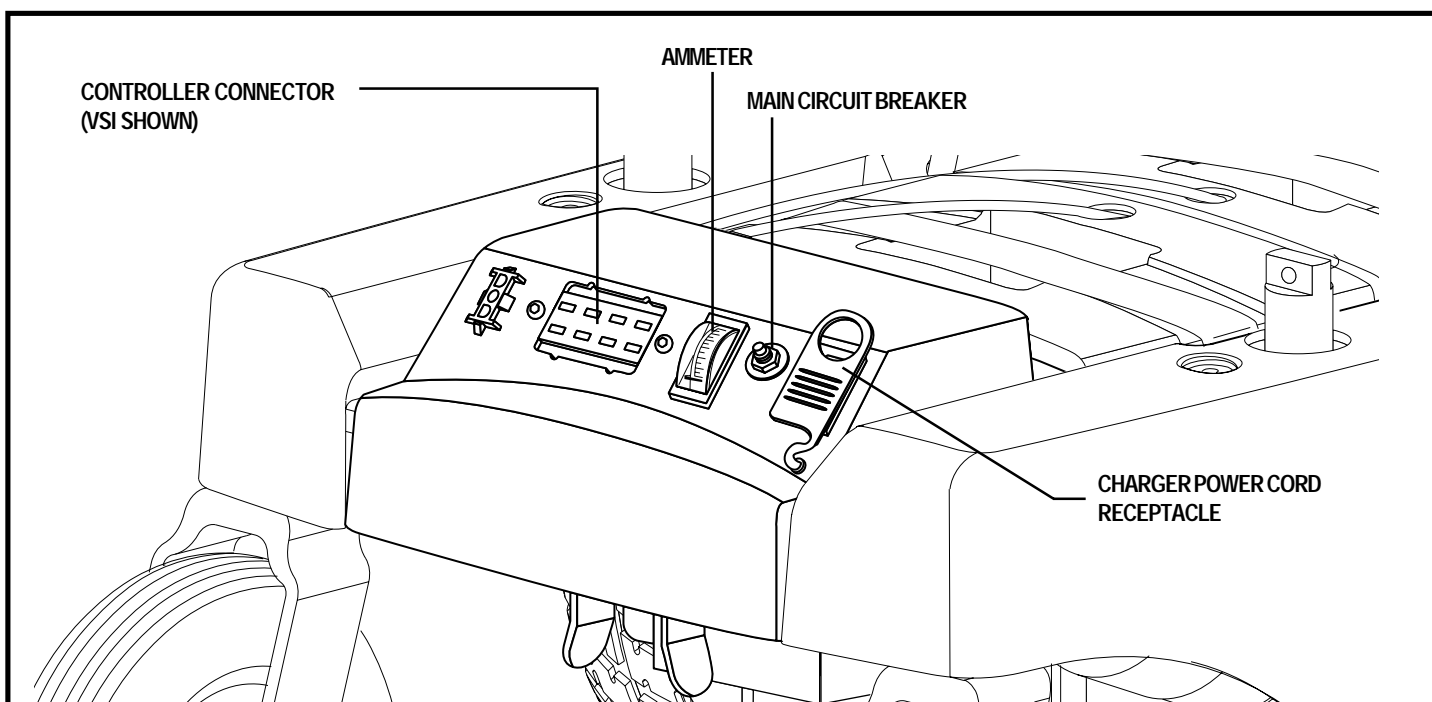

Figure 6. Power Base Rear View - Electronics Tray
The electrical components consist of the controller, the batteries, and the motors. The batteries, motors, and controller power module (if equipped) are located on the power base assembly. The controller is located on the seat assembly. Connectivity between the controller and the motors, batteries, and the battery charger is provided by one or more wiring harnesses. See figures 6 and 7.
1. Disconnect the controller harness from its connector on the electronics tray. See figure 6. You may need to pull firmly and gently wiggle the harness to remove it from the connector.